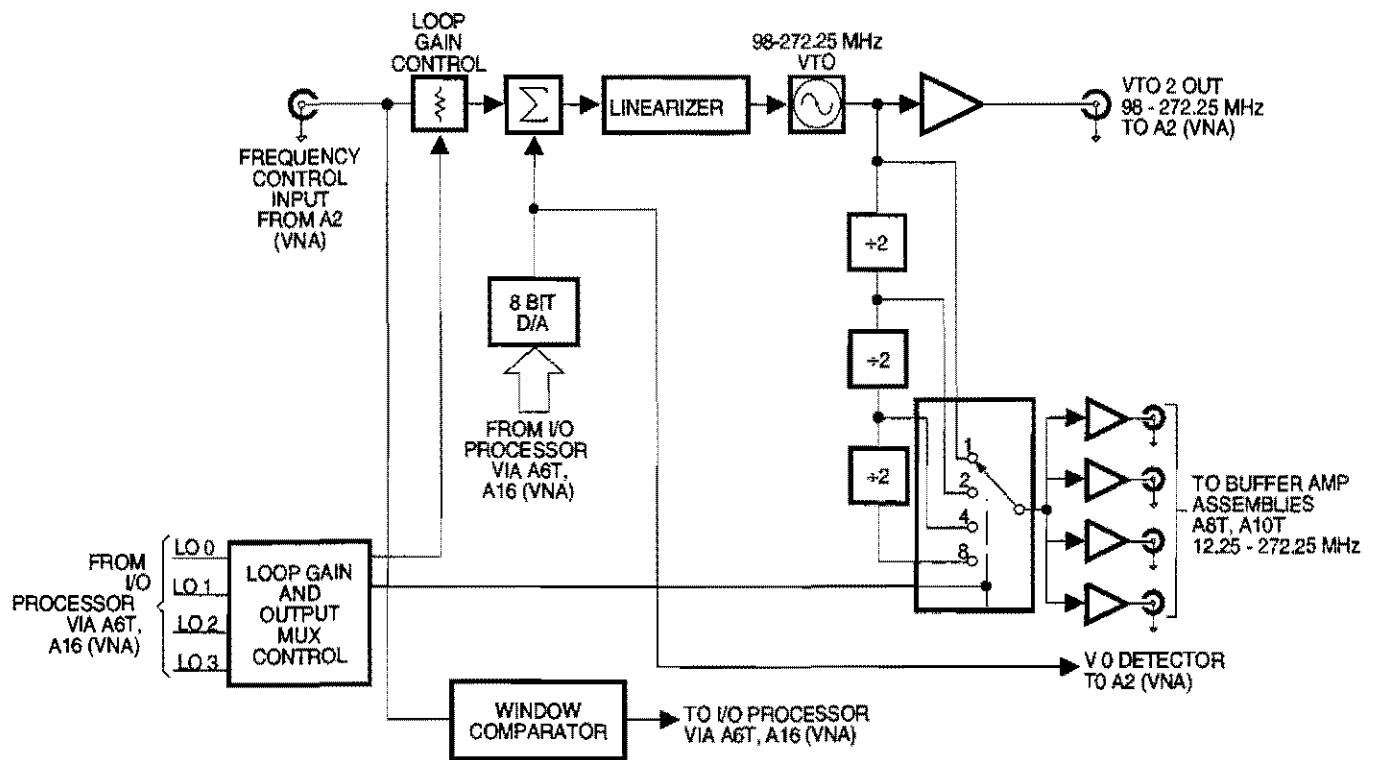

Figure 9-5. A4T LO 2 PCB Block Diagram
The A4T LO 2 PCB (Figure 9-5) provides the second local oscillator (LO) signal to the A8T and A10T Buffer Amplifiers. There it mixes with the first IF signal to produce the second IF of 2.25 MHz. The A4T circuitry consists of a loop gain control circuit, a summation amplifier, an 8-bit digital-to-analog converter (DAC), a linearizer, a voltage-tuned oscillator (VTO), a series of divide-by-2 frequency dividers, a window comparator, a frequency range selection circuit, and several buffer amplifiers.